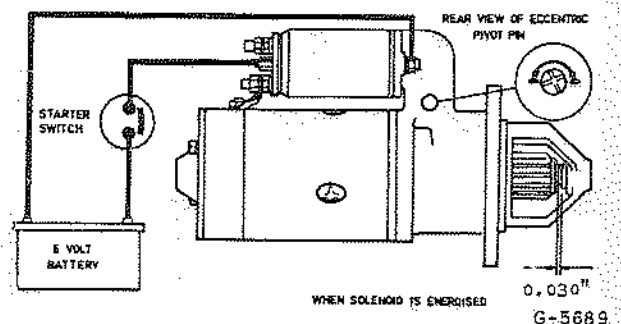

Fig. 12 - Setting Pinion Movement
- (1) To facilitate fitting the solenoid unit to the drive end bracket, ease the drive assembly forward along the armature shaft.
- (2) Set the pinion movement before tightening the eccentric pivot pin securing nut. See Fig. 12.
- (3) Before assembling the commutator end bracket, check to see that the brake ring insert is in good condition, then insert the fibre and brass thrust washers (fibre first) and install the two spring loaded brake shoes. See that the shoes sit squarely in the ring, and that the driving slots (one in each shoe) are aligned to engage with the driving peg